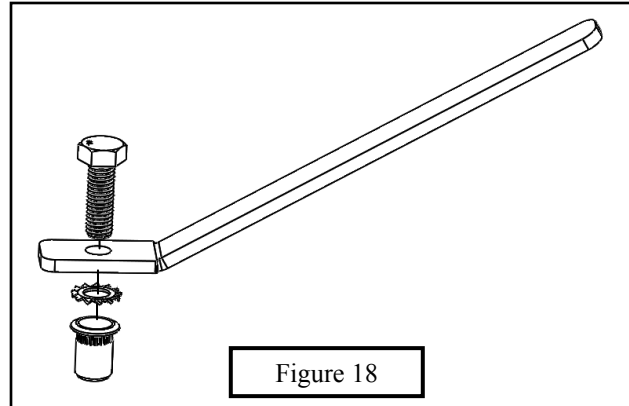

Figure 18
15. Install the Riv-nuts (22) using the Riv-nut install tool (23), M8 hex head bolt (24) and the M8 start washer (25) **Figure 18 in page 5.** Then use M8 hardware (14, 16, and 17) to hold the brackets down. Figure 12